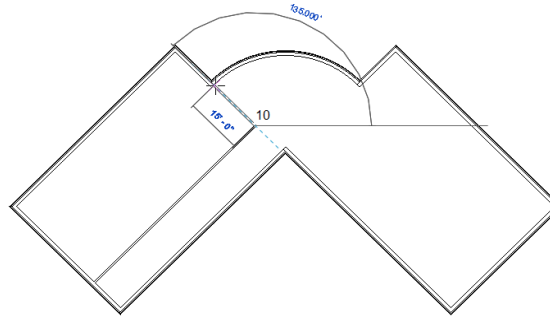

Figure 3-71 Sketching the second interior wall
5. Start the next wall from the endpoint of the last wall by clicking on its endpoint. Move the cursor upward toward the left such that it subtends an angle of 135 degrees with the horizontal and reaches the exterior wall displaying the **Nearest** object snap, as shown in Figure 3-71. Click to specify the endpoint of the wall.
6. Similarly, to start the next interior wall, bring the cursor close to the starting point of the last created wall (marked as 10), refer to Figure 3-71. Then, move the cursor away along the center of the wall that is connected to the last created wall until the temporary dimension appears. When the temporary dimension appears, enter the value **10'0"**(**3048 mm**) and press ENTER to specify the start point of the wall.